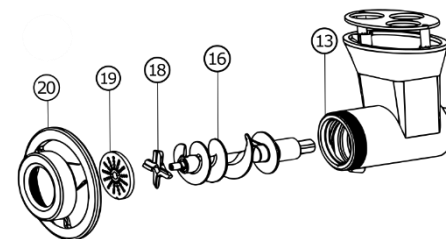

FIG 1. EXPLODED VIEW OF GRINDING UNIT
1.- Remove the ring (20) turning it counterclockwise and extract the plate (19), Knife (18) and worm (16) (see Fig 1).